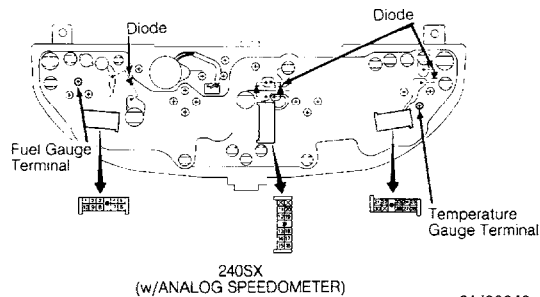

Fig. 1: Rear Views of Combination Meters
1) To check power source, turn ignition switch on. Check voltage between specified instrument panel terminal and ground. Refer to FUEL GAUGE TEST TERMINALS table. See Fig. 1. If battery voltage is present, go to step 3).
1) To check power source, turn ignition switch on. Check voltage between specified temperature gauge terminal and ground. See TEMPERATURE GAUGE TEST TERMINALS table. See Fig. 1. Ensure battery voltage is present. If battery voltage is present, go to step 3).